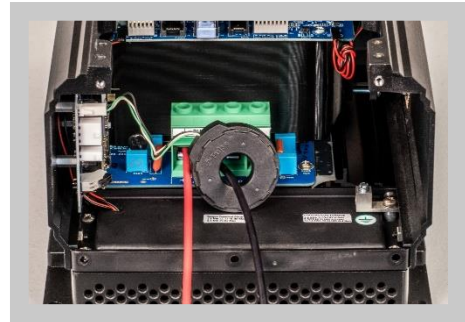

Figure 9
3. Pass the **PV-** cable through the AF toroid, **Figure 9**.